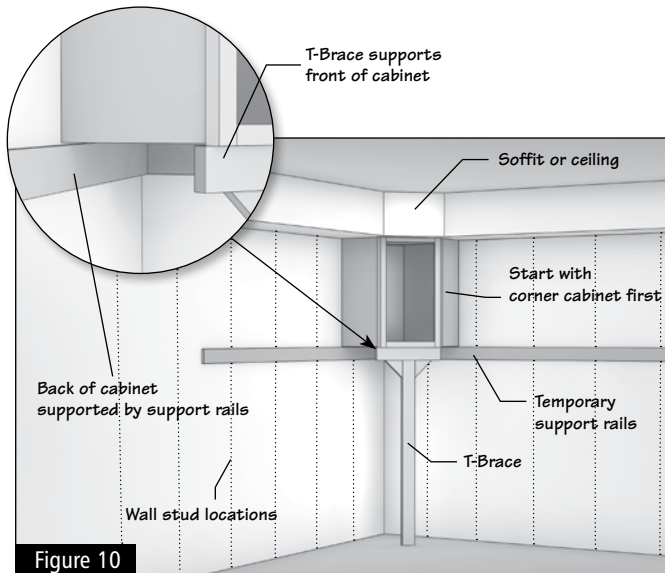

Figure 10
- 3.2** Start with the corner cabinet. With someone else's help, lift it into position on the support rail and use a 2 x 4 or T-Brace at the front to prop the cabinet into place. Keep in mind, blind corner cabinets may need to be pulled out from the corner as shown in your kitchen plan. (Figure 10)